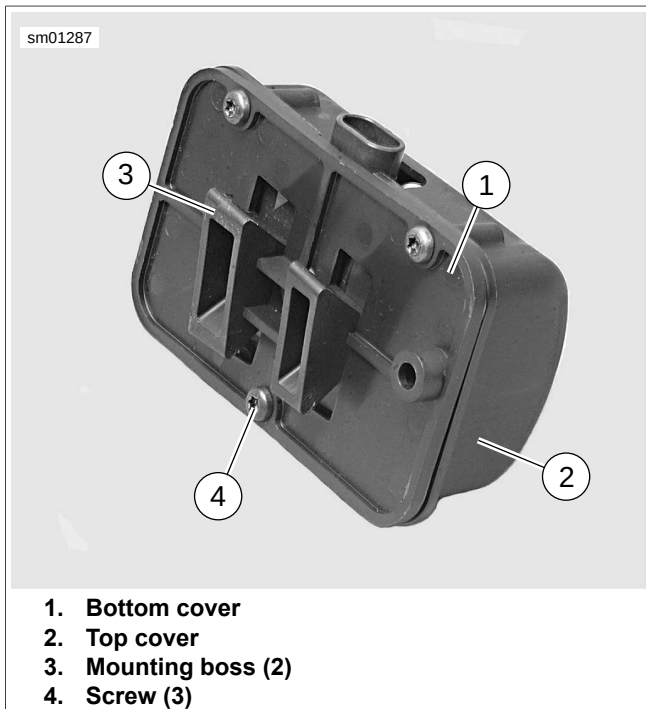

Figure 6-128. Security Siren Housing
1. See Figure 6-128. Remove three screws (4) and bottom cover (1) from top cover (2) of security siren assembly.
2. See Figure 6-128. Place bottom cover (1) on top cover (2) and secure with three screws (4).